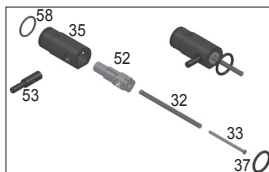

Figure 8: The Rear Bolt Assembly.
- **Front Bolt O-ring** (34)
- **Rear Bolt O-ring** (58, see Figure 8)
- **Linkage Arm** (36)
- **Drive Spring** (32) and **Guide Pin** (33)